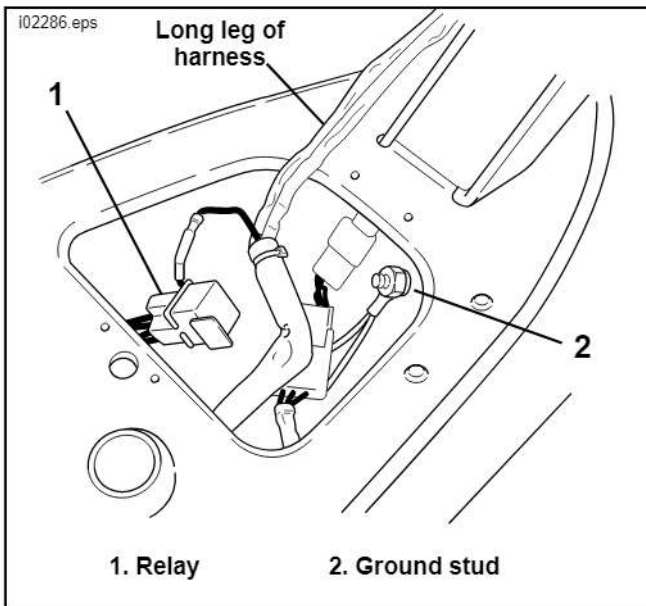

Figure 4. Install Fog Lamp Wiring Harness (All Except VRSC Models. Dyna Model Shown)
- All models except VRSC:** See Figure 4. Install the wire harness (7) from the kit. Place the relay in the opening of the frame under the seat area, and route the long leg of the harness forward along the frame backbone.
6. Connect the black ground wires with the two ring terminals to the ground stud under the seat, or at any good electrical ground point. Secure the kit harness to the adjacent harnesses with cable straps (6) from the kit.